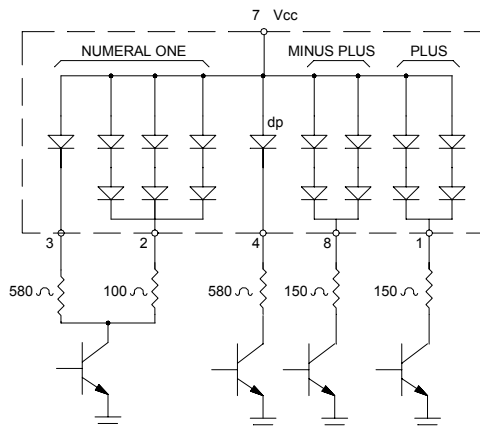

FIGURE 3
- L: Line switching transistor in figure 3 cutoff.
H: Line transistor in figure 3 saturated